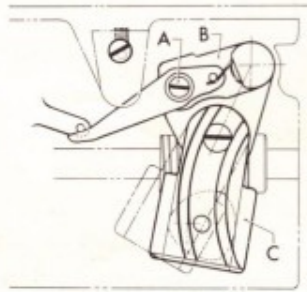

Fig. 15
Set the needle position to "RIGHT" (with buttonhole control lever at 1 position). Turn hand wheel to bring stitch regulator body to the extreme right position of its swing motion (see Fig. 15). Check if needle either makes no sidewise movement or makes very slight movement when you move zigzag width lever from 0 to the maximum width.
2. Turn hand wheel to move zigzag width regulator (C) Fig. 15 to the extreme right position.
3. Loosen screw (A) Fig. 15 and adjust the position of regulator support (B) until you obtain correct needle movement while sliding zigzag width lever from 0 to 3, the maximum, and back to 0. In this case, keep buttonhole control lever to 1 position, which may get out of the position by itself during this adjustment.
4. Tighten screw (A) securely.